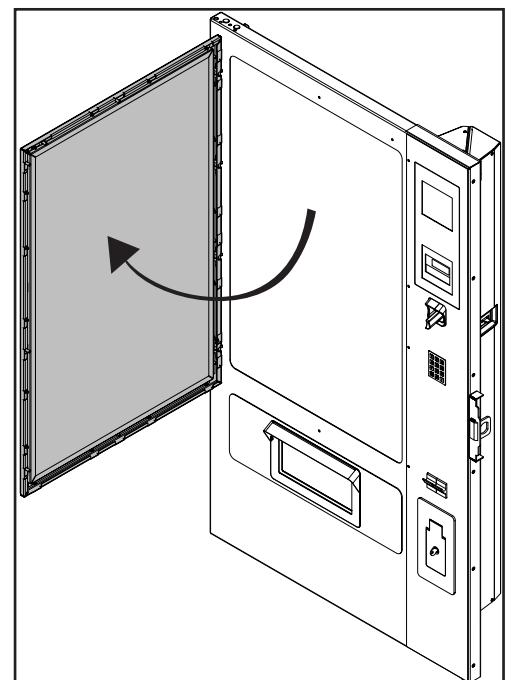

Figure 12
5. Open the impact protection (Fig. 12).